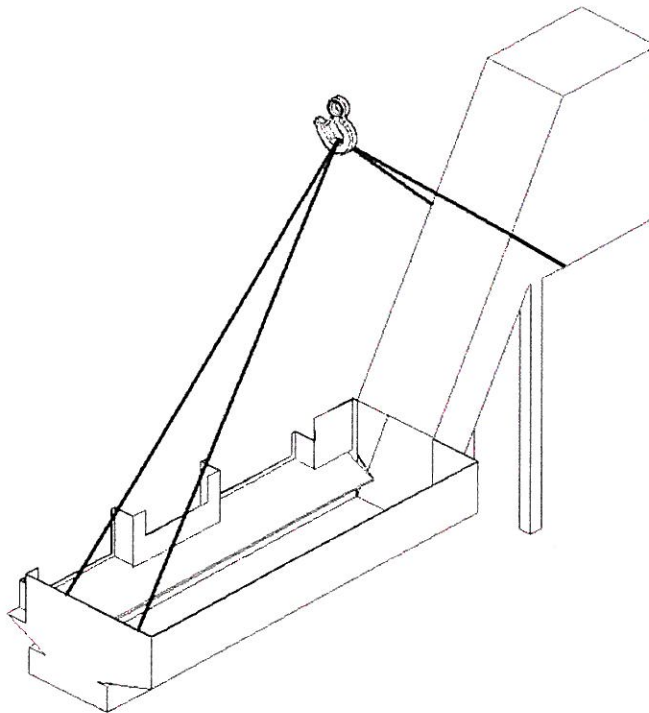

Figure 5.4.3: Lifting the chip conveyor
- If an overhead crane is used, lift the complete coolant tank by using wire ropes of sufficient length and strength. Fix the ropes on the four corner of the coolant tank as shown in the Figure 5.4.3.
- If an overhead crane is used, lift the complete chip conveyor by using wire ropes of sufficient strength and lengths. Fix the ropes on the four corner of the chip conveyor as shown in Figure 5.4.3
Refer Figure 5.4.3 for lifting details.